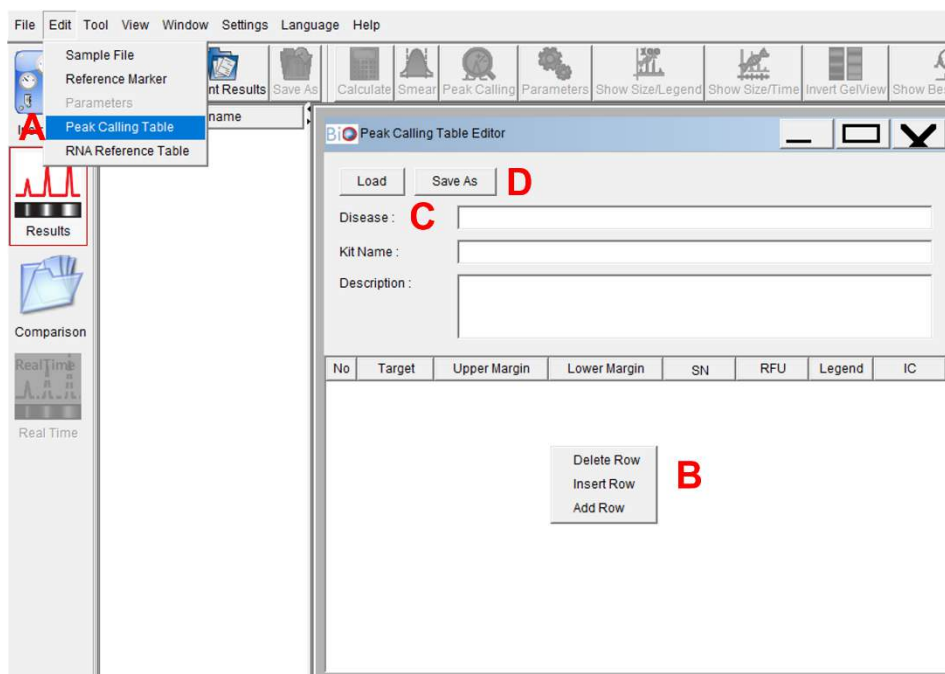

Figure 4-17 Peak Calling Table
1. Click **Edit** → **Peak Calling Table** to open the Peak Calling Table Editor (Figure 4-17 A).
2. Right click and select **Add Row** to add a new panel (Figure 4-17 B).
3. Set up the new table. Enter the criteria of the peak in the columns (Figure 4-17 C) and save as a new file (Figure 4-17 D) to the default folder.